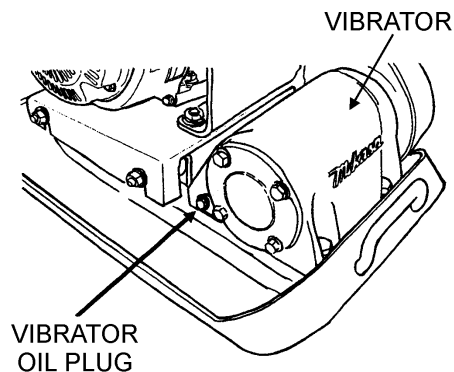

Figure 10. Vibrator Oil Plug
2. Check vibrator oil level by removing the oil plug (vibrator oil gauge) as shown in Figure 10. The oil level should be up to the oil plug. **IMPORTANT**, if oil is required, replace using only SAE10W-30 motor oil.
2. Place the Engine **ON/OFF** switch (Figure 10) in the **OFF** position.